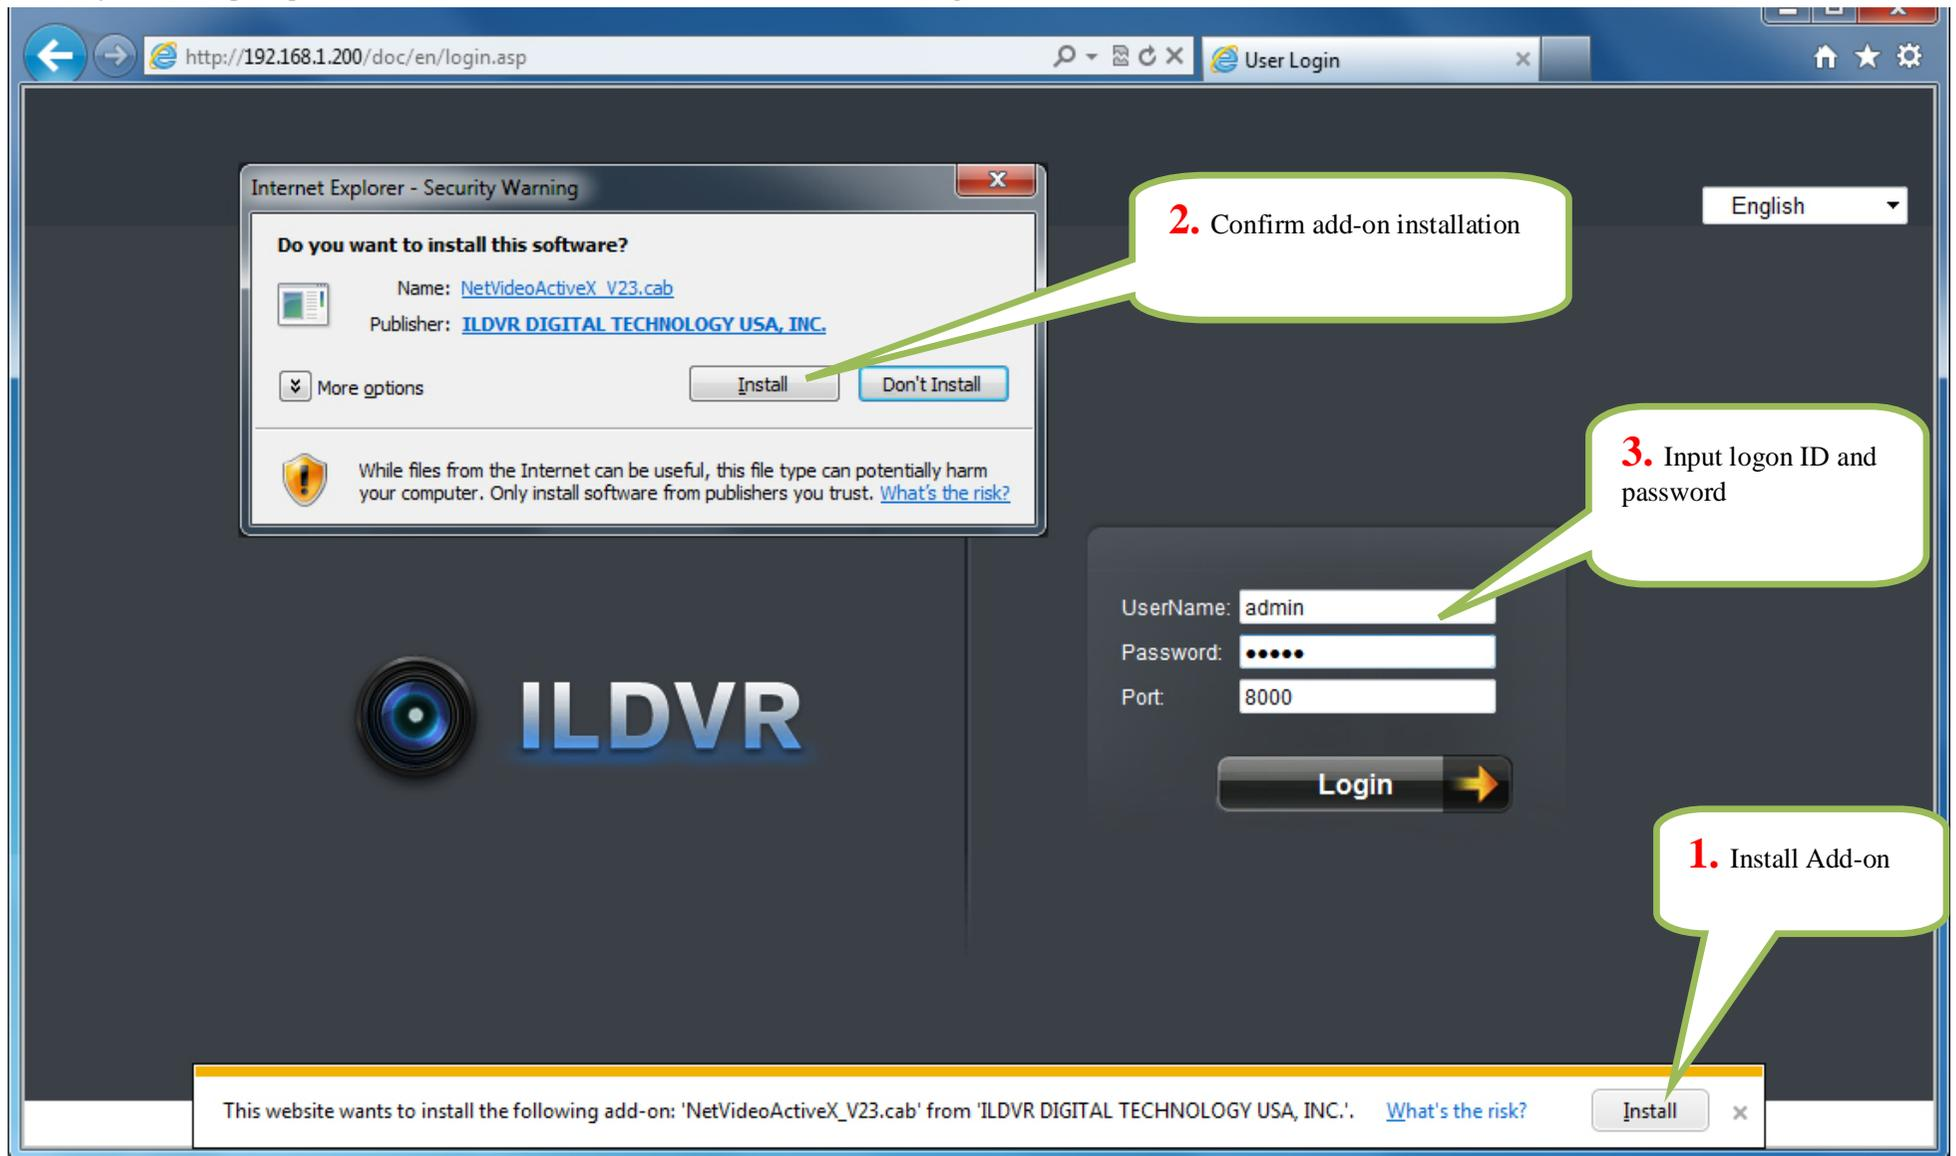

Figure 14.16. Log Search Export Menu
- Log files can also be exported onto a USB device. To export a log file, connect a USB device to the DVR, select the log file to export and click the *Export* button to enter the Log Search Export menu, shown below in Figure 14.16. Click the *Export* button to export log onto USB device. The exported file will be named according to the time it was exported (e.g., 20120218143958logBack.txt).